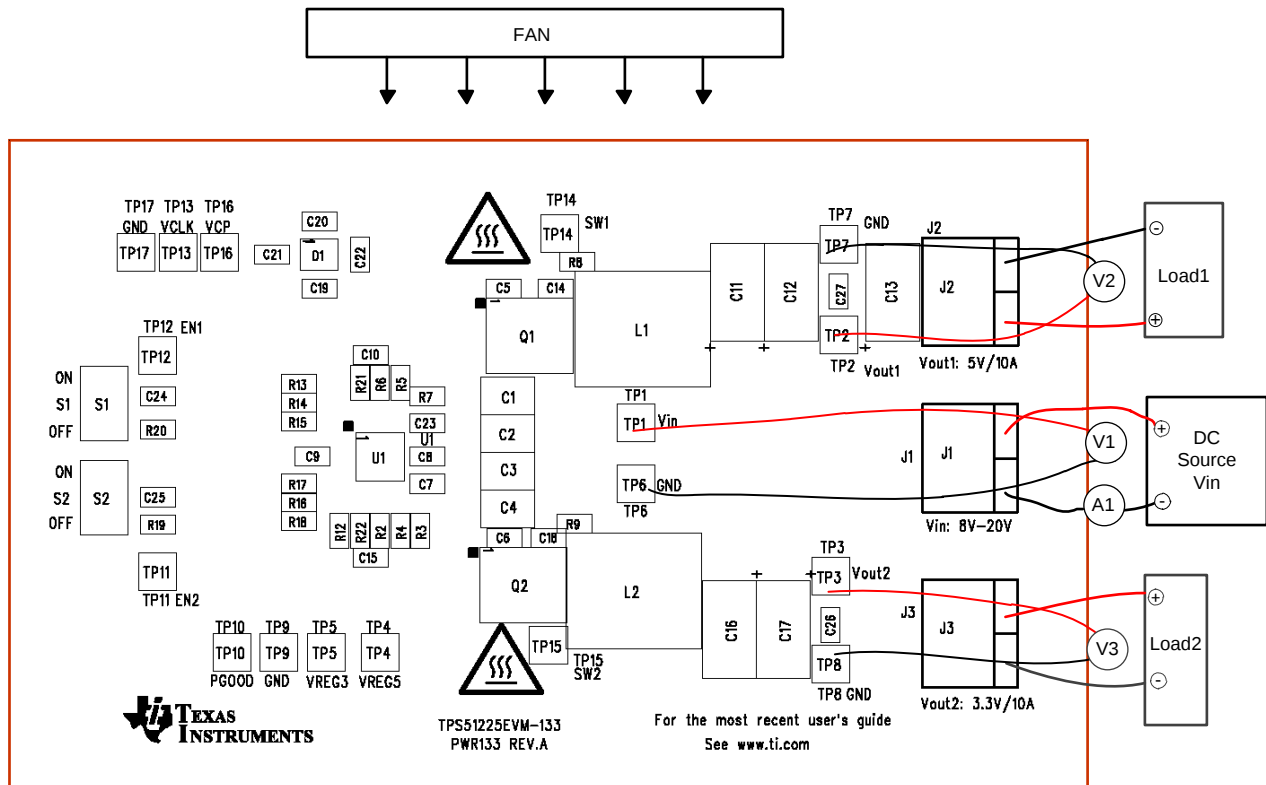

Figure 3. TPS51225EVM-133 Recommended Test Set Up
Voltage Source: The input voltage, V_{in} , should be a 0- to 20-V variable DC source capable of supplying 10 A dc. Connect V_{in} to J1 as shown in Figure 3.
Figure 3 is the recommended test set up for evaluating the EVM. Working at an ESD workstation, make sure that any wrist straps, bootstraps or mats are connected referencing the user to earth ground before power is applied to the EVM.
1. Prior to connecting the DC input source, Vin, it is advisable to limit the source current from Vin to 10 A maximum. Make sure Vin is initially set to 0 V and connected as shown in Figure 3.
Place a fan as shown in Figure 3 and turn it on, making sure air is flowing across the EVM.
1. Set up the EVM as described in Section 4 and Figure 3